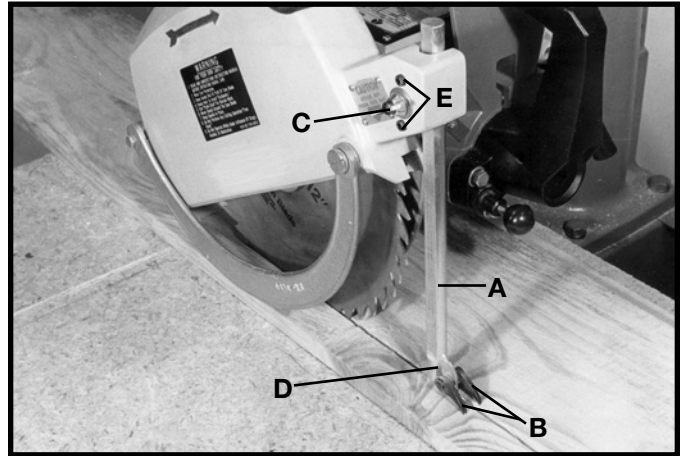

Fig. 57
On all ripping and plowing operations, the infeed side of the blade guard is lowered so that it just clears the material. This will prevent the material from being lifted off the table. Also, lower the kickback rod (A) Fig. 57, so that the kickback fingers (B) are below surface of material. Rod (A) can be raised or lowered by loosening wing nut (C), moving the kickback rod to the desired position and tightening wing nut (C). The kickback fingers (B) will then come into contact with the material, preventing “kickback.” The splitter (D) Fig. 57, should be in line with the saw blade. If an adjustment is necessary, make sure to **DISCONNECT MACHINE FROM POWER SOURCE**. Rod (A) can be adjusted sideways by tightening or loosening two screws (E) Fig. 57.